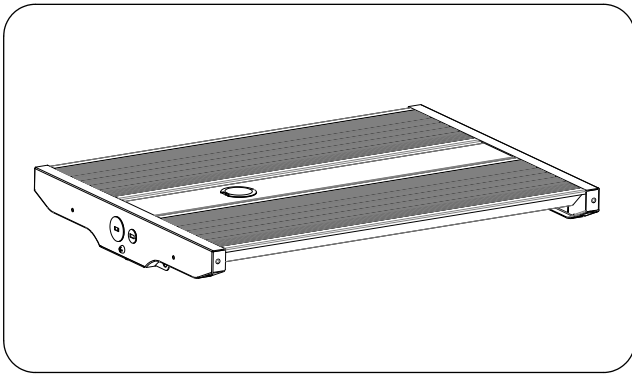
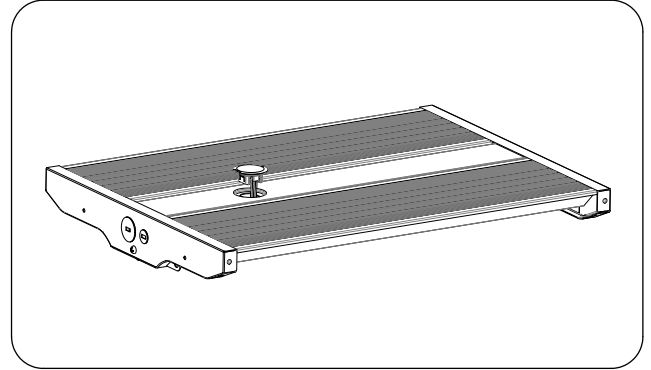

Figure 1
Figure 2
Step 1 :Remove the plate before or after you install the fixture.(Figure 1 and Figure 2)